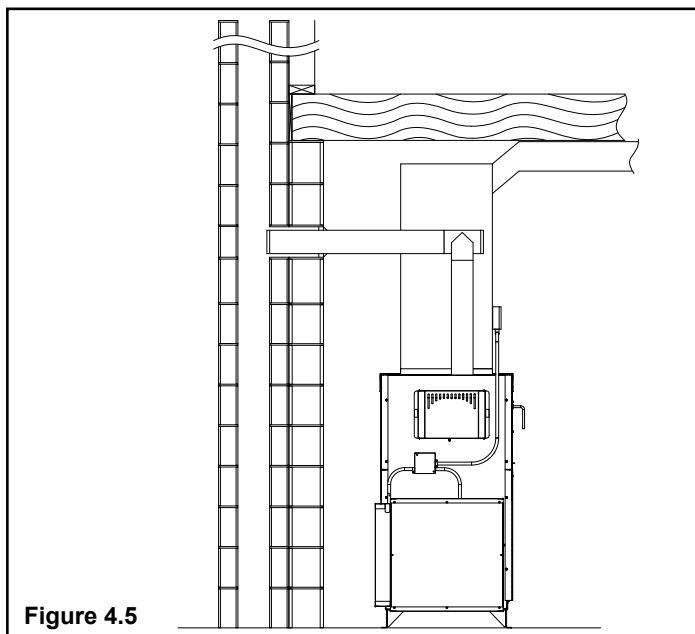

Figure 4.5
**Certain Canadian and Local Codes may require that the chimney be fully relined. See Figure 4.5.**